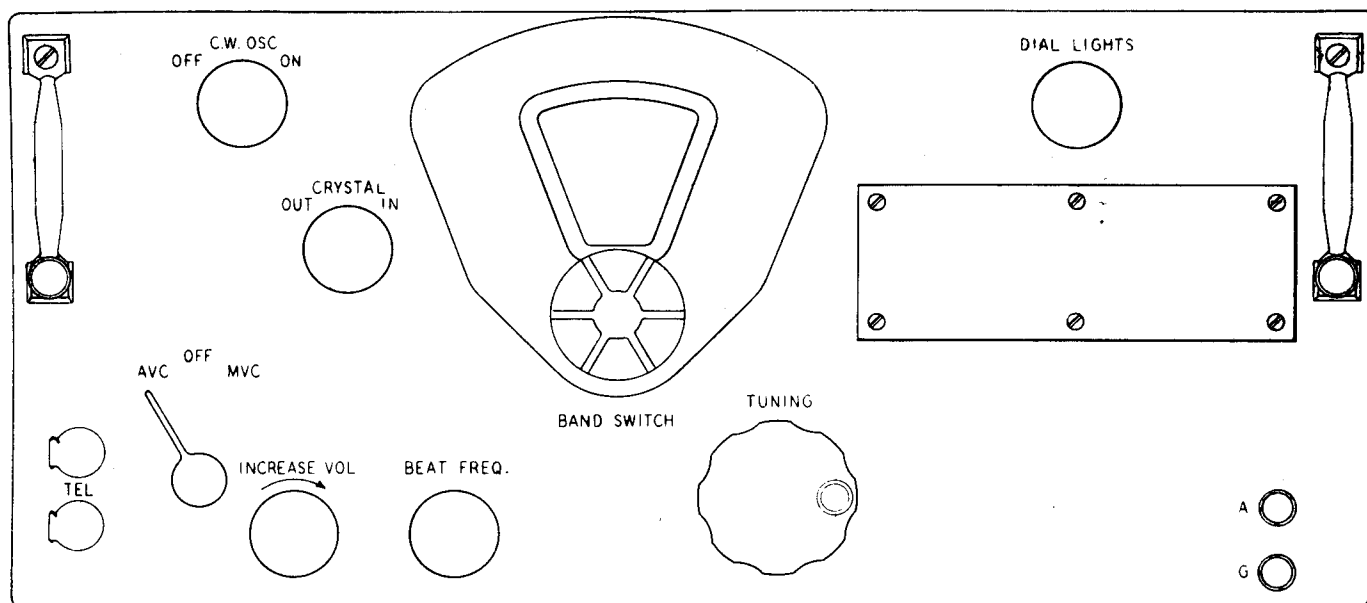

Figure 3 — Radio Receiver BC-348-J, View of Front Panel
- (1) Check the connections at the aircraft power supply.
- (2) Check the connections at the transmitter relay.
- (3) Check the connections at the interphone system, if used.
- (4) Check the power connections to auxiliary equipment, if used.
- (5) Check the antenna and ground connections.
(6) Make sure the thumbscrew rods holding the chassis in the cabinet are tight.
(7) Make sure the snapslides are locked and secured with safety wire.
b. CONTROLS.—The operator should become thoroughly familiar with the controls on the front panel (see Figure 3) and their function before beginning the operating test.